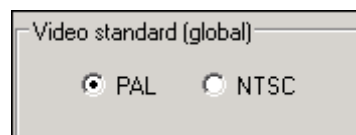

Fig. 47 "Video standard (global)" group field on the "Cameras" tab
1. Select one of the two video standards (PAL or NTSC) (see Fig. 47).